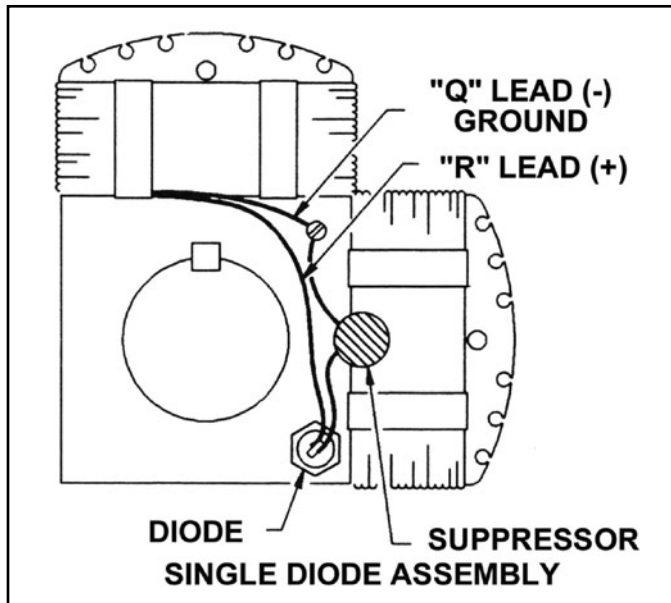

Figure 2
Flashing the Rotor - Refer to Figure 2
- a. Check each diode individually by removing the (+) rotor lead stud connection (see Figures 2 and 3). Diodes are good if the resistance reading is approximately mid-scale on the lowest ohm rating.